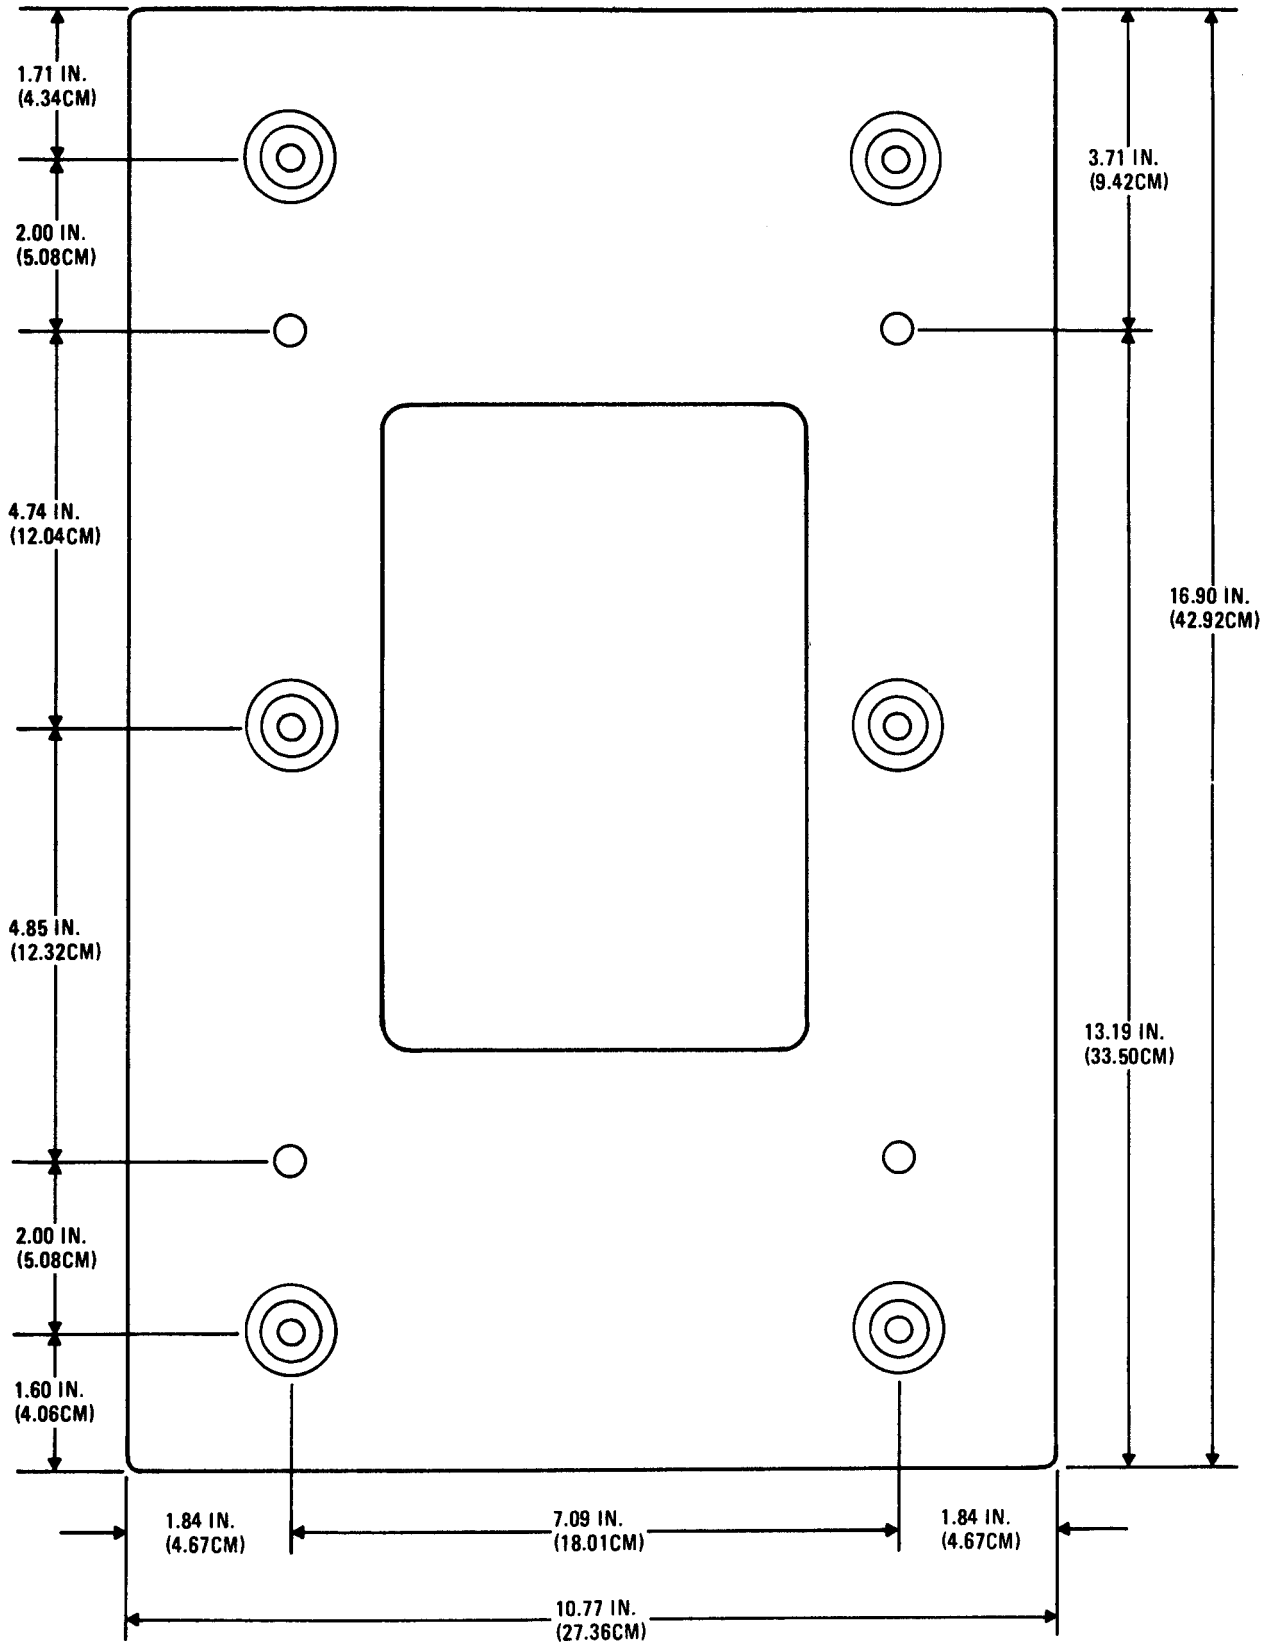

Figure 1-7. Power Amplifier Mount MT-4497/GRC-193 Lower Tray Assembly Dimensional Data
2. Refer to figure 1-7 and mark off the four mounting hole centers on the mounting surface.